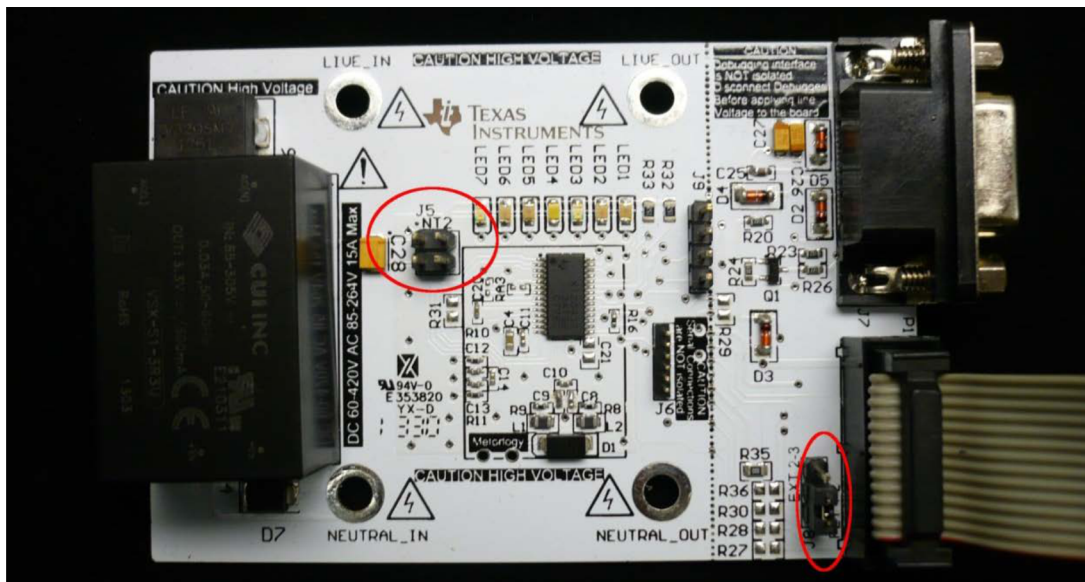

Figure 30. Connecting EVM and FET
10. Make sure the jumper on J8 is short properly. Connect the 14 pin connector P1 to MSP-FET430UIF by a flat cable as shown in Figure 30.